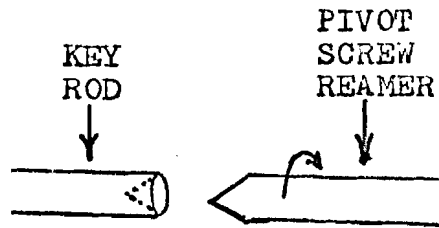

Figure 51
2. Using the proper size pivot screw reamer, remove a small amount of metal from the tapered hole in the key rod end (Figure 51).